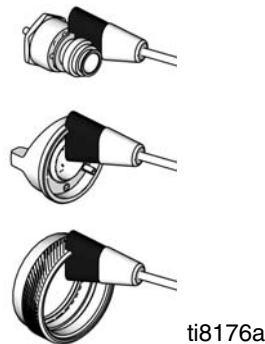

FIG. 16: Clean air cap, ring and fluid nozzle
11. Scrub the air cap retaining ring, air cap, and fluid nozzle with the soft-bristle brush (see FIG. 16). To clean out air cap holes, use a soft implement, such as a toothpick, to avoid damaging critical surfaces. Clean the air cap and fluid nozzle daily, minimum. Some applications require more frequent cleaning.